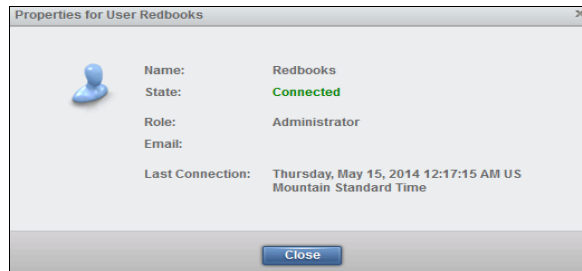

Figure 4-61 User properties
- **Properties:** This option displays the properties of the user, the state of the user, and the user's last connection, as shown in Figure 4-61.